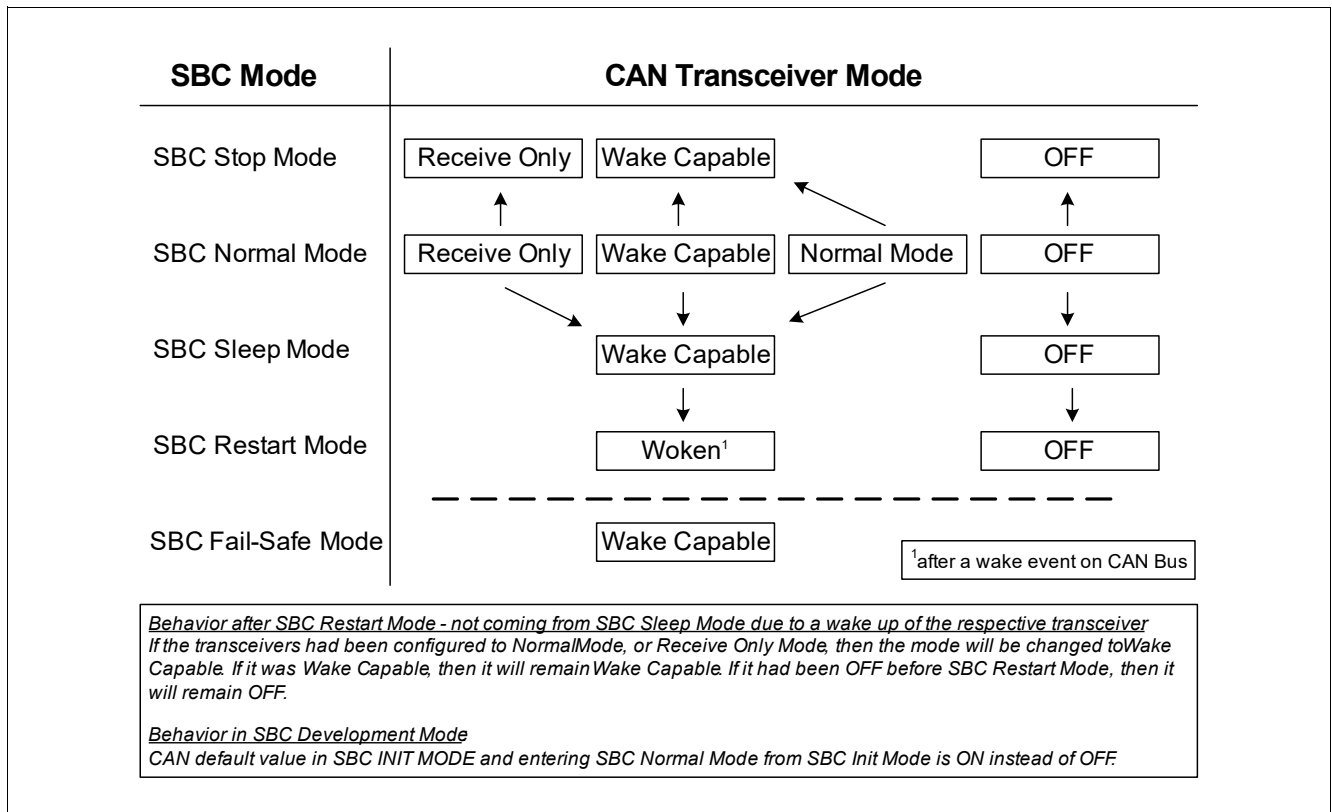

Figure 23 CAN Mode Control Diagram
**Figure 23** shows the possible transceiver mode transitions when changing the SBC mode.